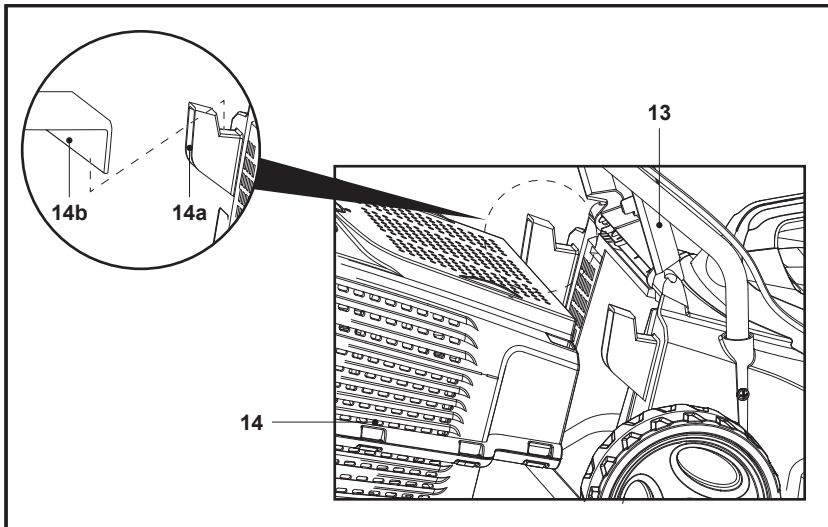

Fig. 6
2. Open the deflector guard (13) and hold it in position.
3. Align the supports (14b) with the hooks (14a) to hang the grass box (14) onto the lawnmower (Fig. 6).